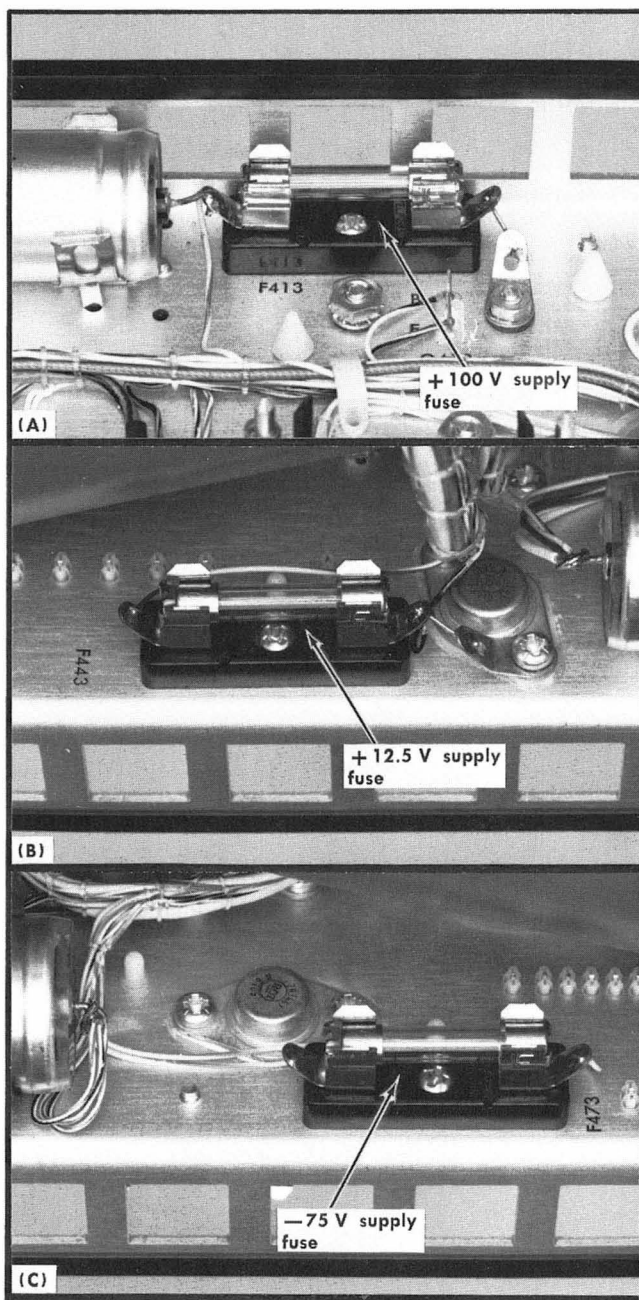
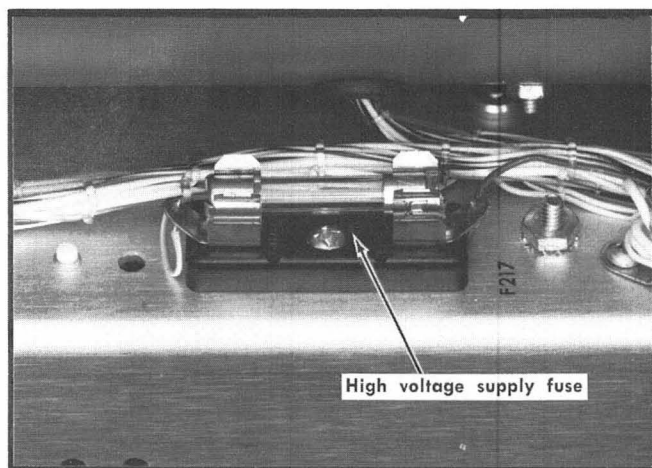

Fig. 4-12. Location of supply fuses (A) +100 volts (B) +12.5 volts and (C) -75 volts.
Fig. 4-13. Location of high voltage supply fuse.
**Fuse Replacement.** The power-line fuse is located on the rear panel. Low voltage power supply fuses are mounted on the chassis near the power supply circuit board. See Fig. 4-12. A fuse in the high voltage supply is mounted on the chassis beneath the high voltage section. See Fig. 4-13. Table 4-5 gives the value, location and circuit number.